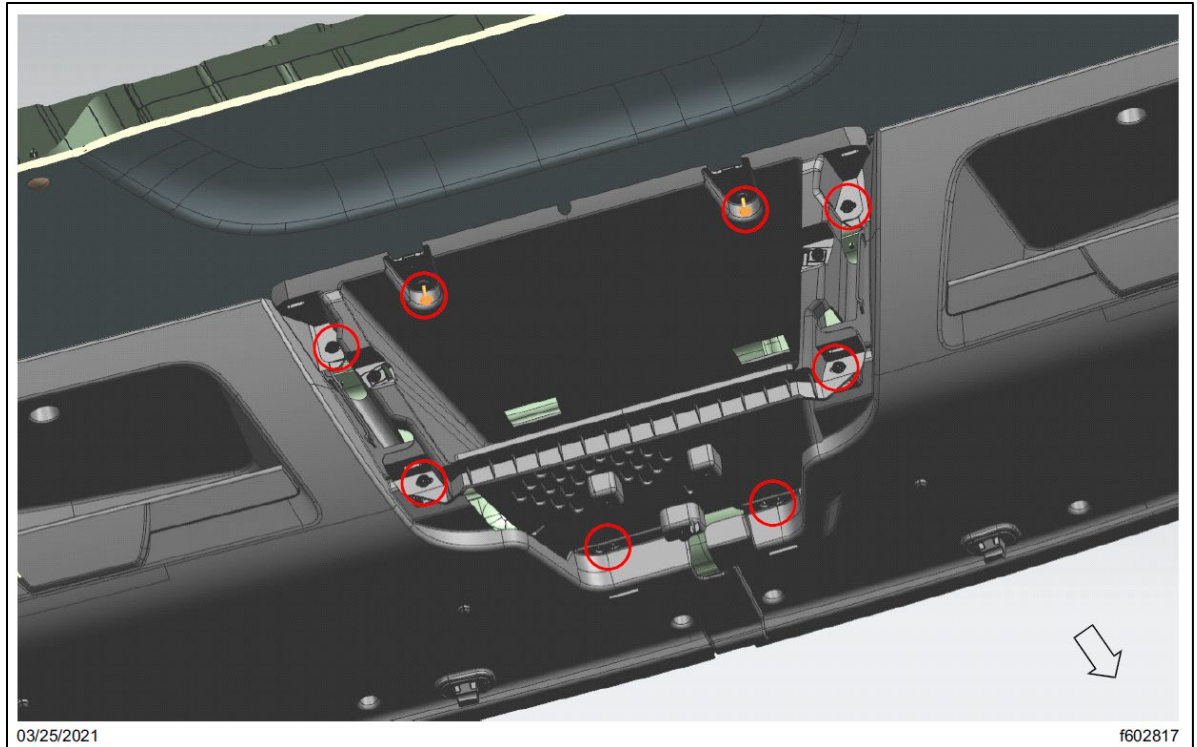

Fig. 18, Center Storage Bin Removal
- 2.5. Remove the eight fasteners to detach the center storage bin from the vehicle as shown in Fig. 18.